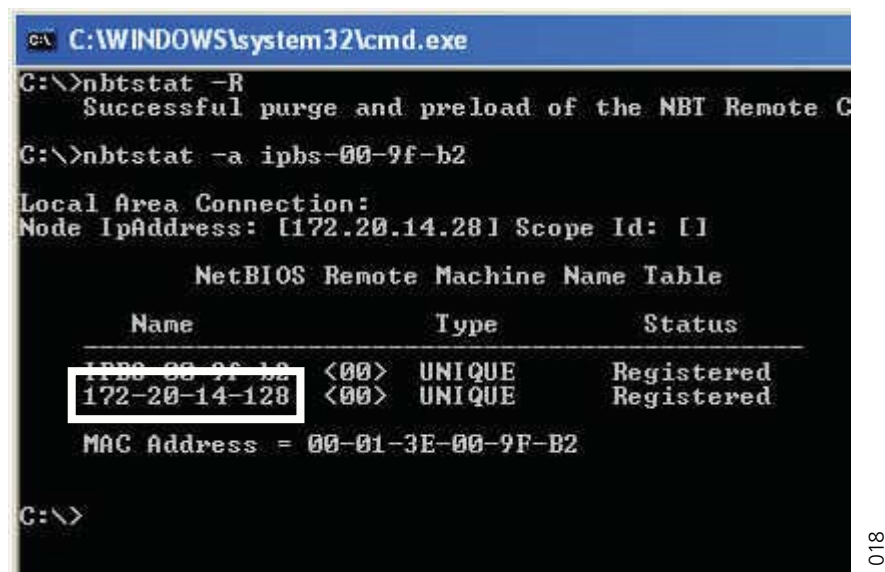

Figure 19. Determine the IP address
- 3 The IP address is displayed in the command window, see the white frame in Figure 19.